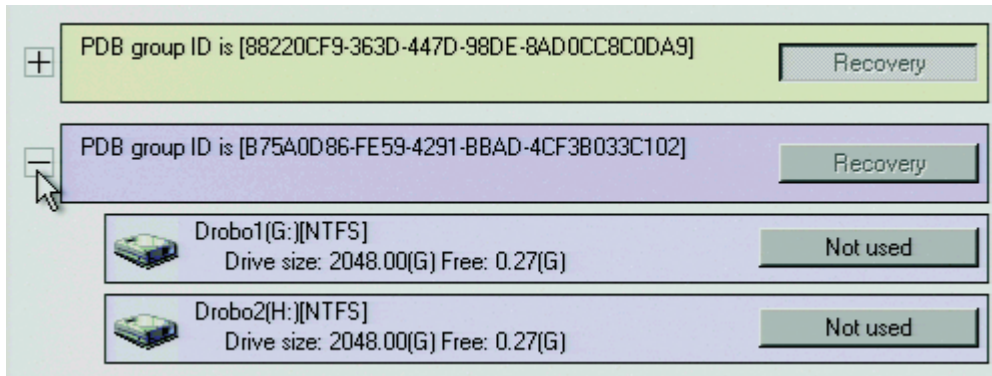

Figure 85. Expanding the PDB IG Group Box
- a. Beside the "PDB group ID" dialog box option, click the plus (+) sign to expand the list (refer to Figure 85).